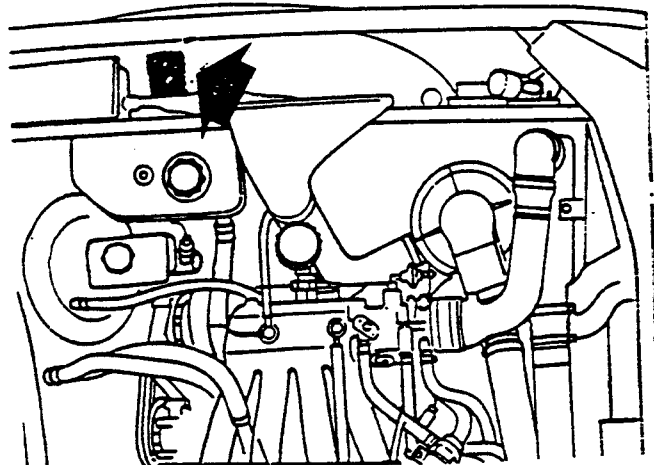

Figure 5. Affixing New Label
5. Remove the existing emission control label (using a heat gun) , clean the surface and affix a new emission control label on the left-hand inner fender in front of the fuse box (figure 5).